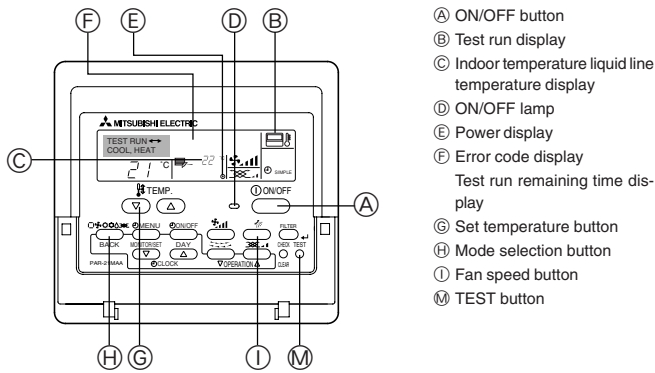

Fig. 8-1
8.2.1. Using wired remote controller (Fig. 8-1)
- ① Turn on the power at least 12 hours before the test run.
- ② Press the [TEST] button twice. ⇒ "TEST RUN" liquid crystal display
- ③ Press the [Mode selection] button. ⇒ Make sure that wind is blown out.
- ④ Press the [Mode selection] button and switch to the cooling (or heating) mode. ⇒ Make sure that cold (or warm) wind is blown out.
- ⑤ Press the [Fan speed] button. ⇒ Make sure that the wind speed is switched.
- ⑥ Check operation of the outdoor unit fan.
- ⑦ Release test run by pressing the [ON/OFF] button. ⇒ Stop
- ⑧ Register a telephone number.